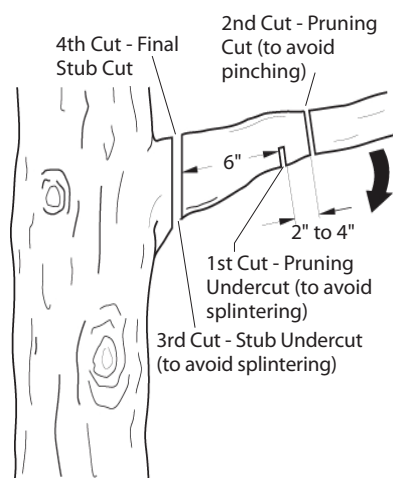

Figure 20 - Cutting A Limb
1. Make first cut six inches from tree trunk on underside of limb. Use top of guide bar to make this cut. Cut 1/3 through diameter of limb (see Figure 20).